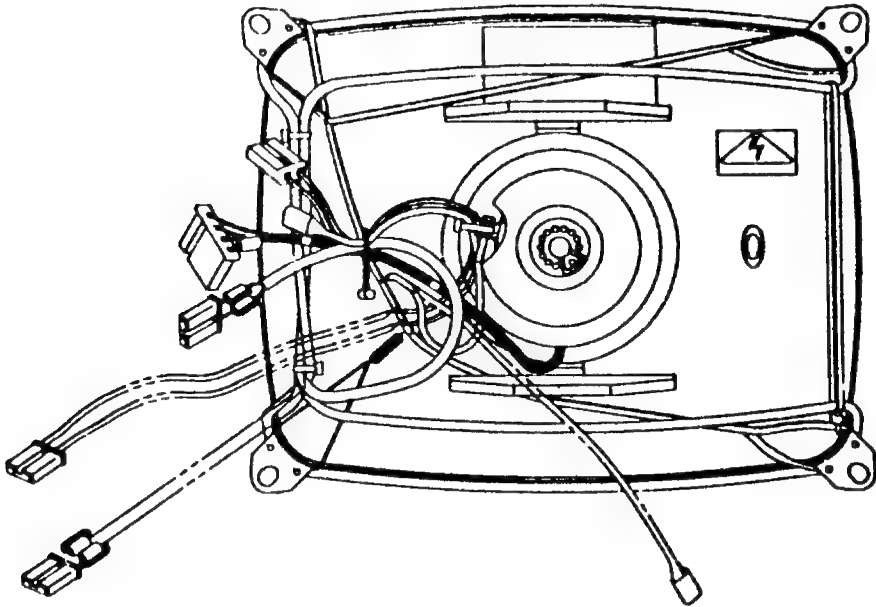

Figure 4-2. Replacement ITC (Supplied as shown)
- Figure 4-2 shows a replacement ITC